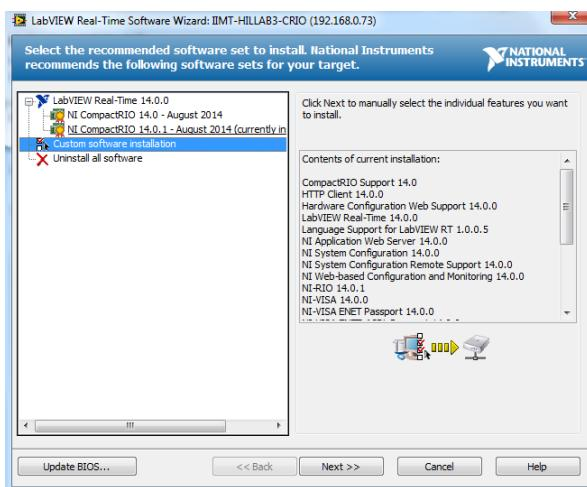

Figure 24: NI MAX - NI Veristand Engine installation 1
2. Now you choose Custom Software installation in the menu, see Figure 24